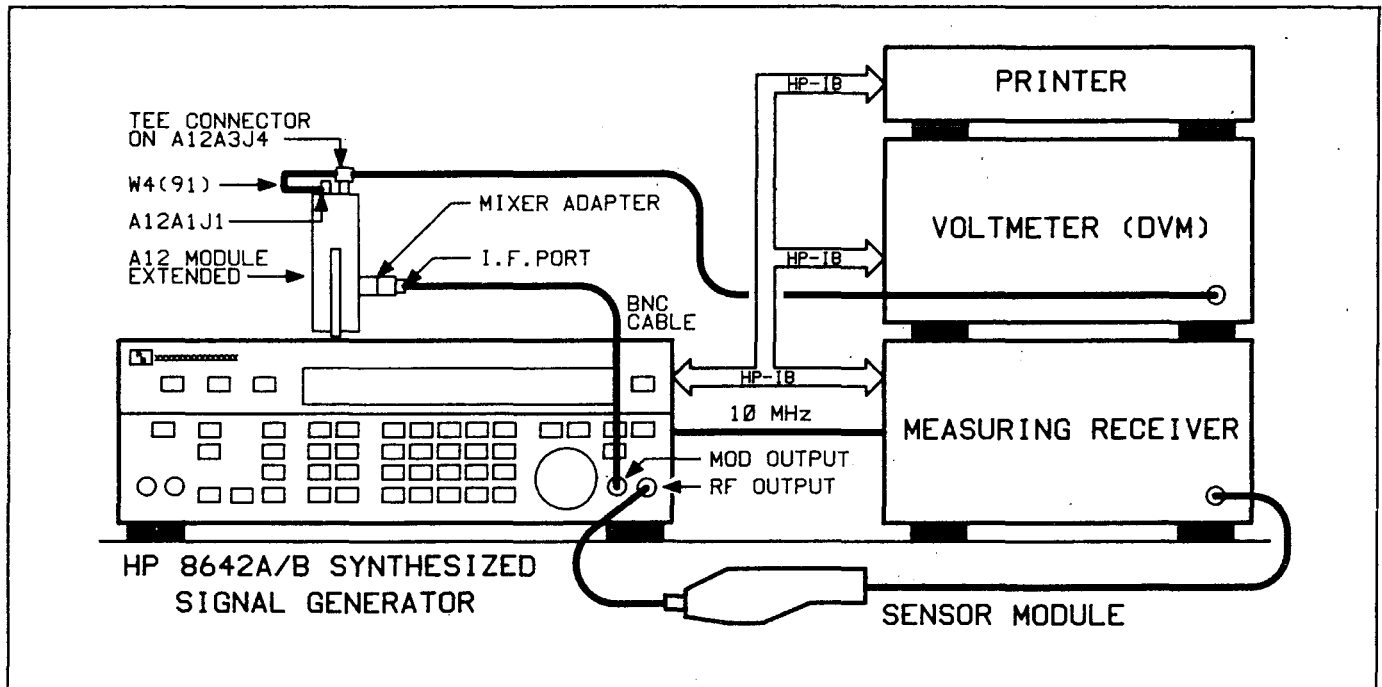

Figure 80-14. Set up 4
13. When "WAITING FOR SET-UP 4 .V27" appears: (refer to Figure 80-14 Set-up 4)